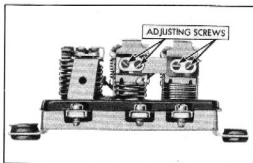

Fig. 29—Air Gap Adjusting Screws
2. In some cases it may be necessary to readjust the air gap between the armature and core. To check this adjustment push the armature down all the way by hand, then allow it to come back up until points are just touching. Then measure the air gap, which should be from .075" to .085". Adjustment of this air gap may be made by loosening the screws, Fig. 29, which mount the upper contact support. The support may then be moved up or down as required to provide an air gap of .075" to .085".
2. Adjustment of the air gap—Push the armature down all the way by hand. Allow it to come back up until points are just closing; then measure the air gap with a feeler gauge. The distance between the armature and the core should be .075" to .085". The air gap may be adjusted by loosening the two upper contact mounting screws, Fig. 29, and moving the upper contact support up or down as required to secure the proper air gap. Be sure that points are lined up and tighten screws down well after adjustment.